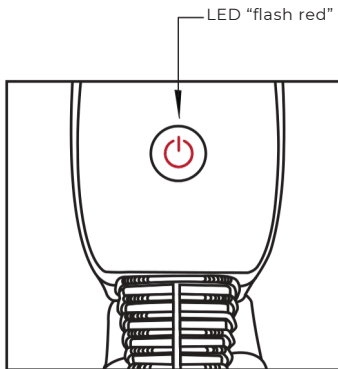

figure 2
- After connecting the power, the **Red** light of the ON/OFF key lights up, indicating that the sander has been powered on. - see figure 2